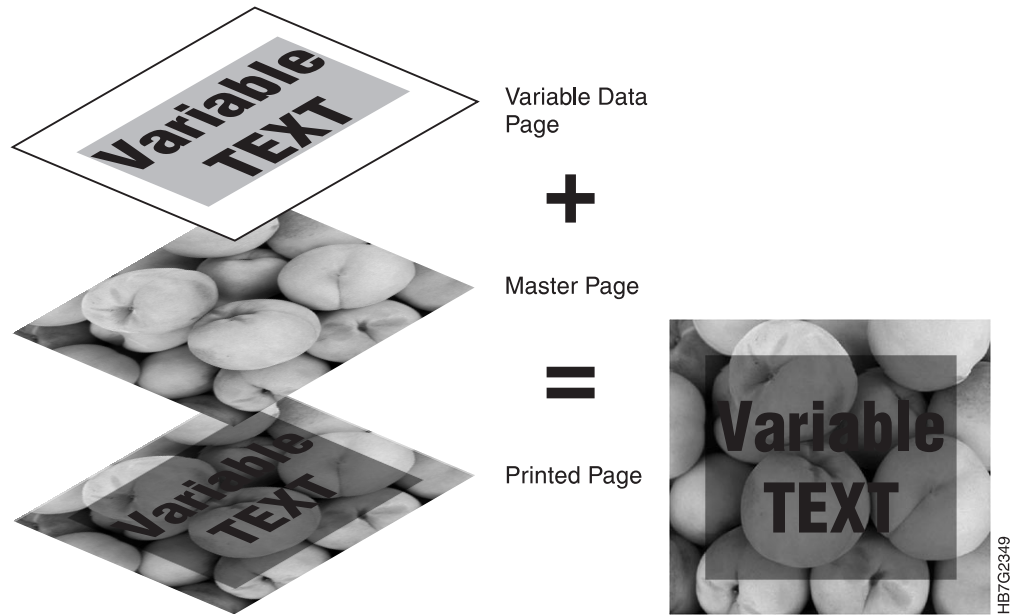

Figure 137. Sample "Overprint" Job Type
- Overprints the variable data on the master page. The color of the variable data is combined with the color of the master page. Use this method when the knockout method does not produce the desired effect or when you want the colors of the variable data to be merged with the colors of the master page. See Figure 137 on page 140.